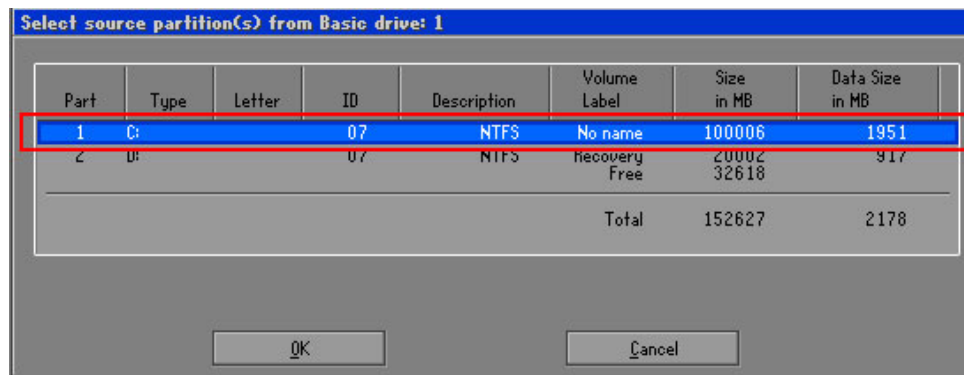

Figure B-12: Select a Source Partition from Basic Drive
Step 6: Select a source partition from basic drive as shown in **Figure B-12**. Then click OK.